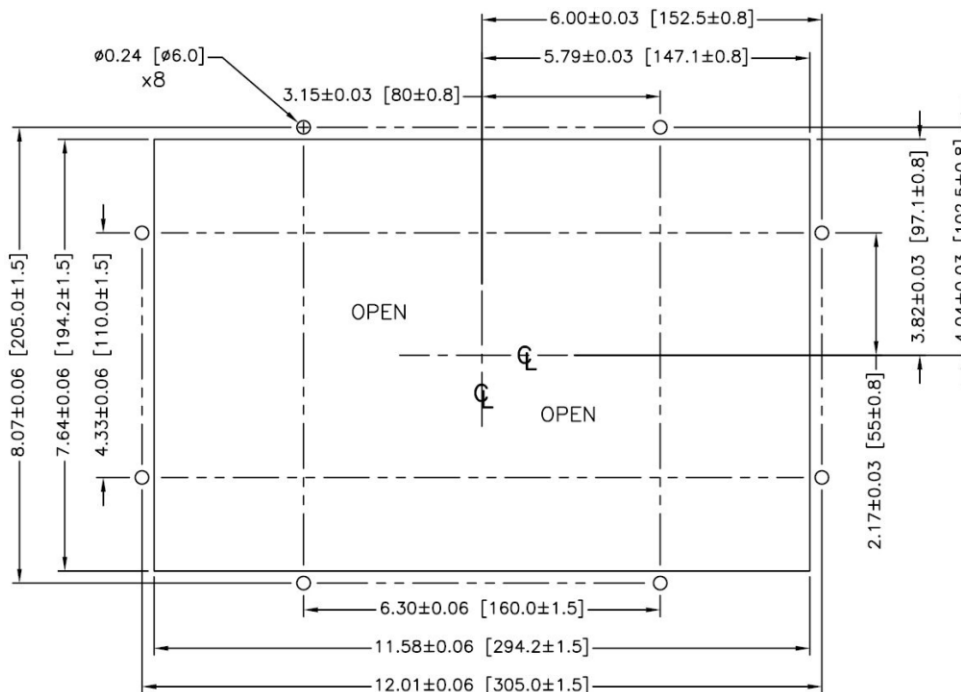

Figure 2-5: Panel Cutout Dimensions
1. Cut an opening and holes in the panel or industrial enclosure as indicated in the panel cutout dimensions shown in Figure 2-5 in inches and [mm].